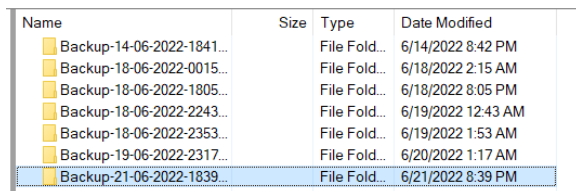

Figure 13. Data folder
4. Go to **Data** → **Open** the most recent backup (Figure 13).